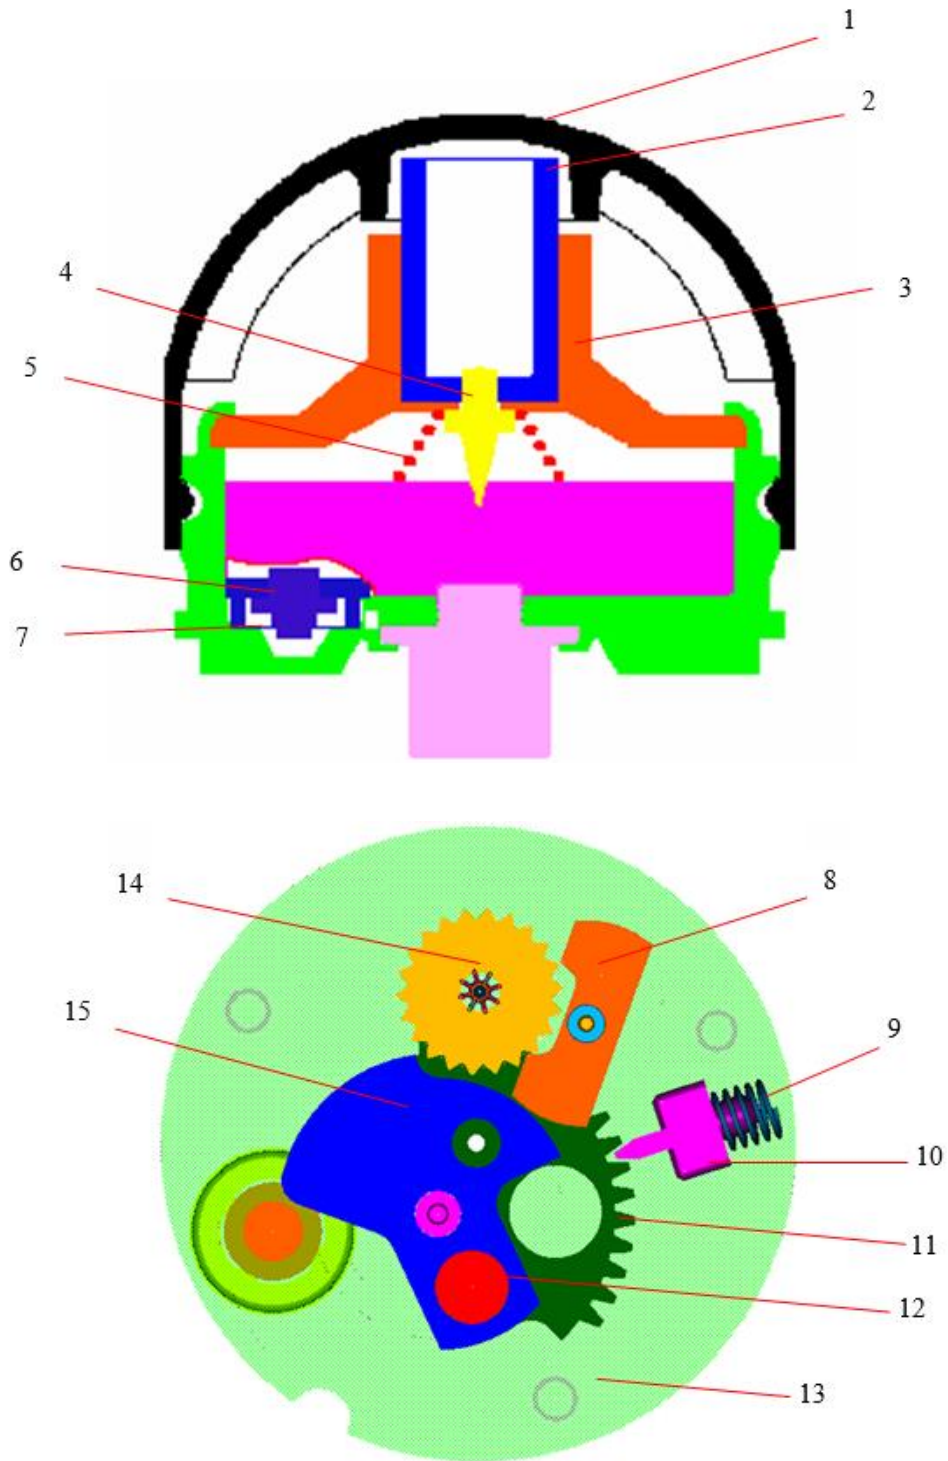

Figure 2: Fuze Components
7.1.1 Fuze components (Figure 2)